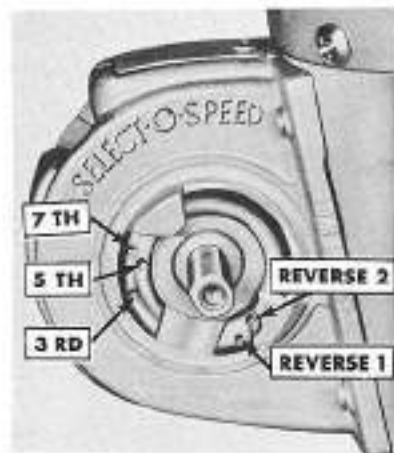

Figure 11
To move the selector lever to the opposite side of the shifter mechanism, take off both covers, Figure 3, by removing the Phillips head screw as shown at (1), Figure 11. Remove the selector lever from the shaft and position it on the shaft on the opposite side of the shifter mechanism. Switch the covers and reinstall with the Phillips head screws. Tighten securely.
Selector Lever Stops: Installation of the selector lever position stops enables the operator to establish a pre-determined shift pattern between two gears. These stops are especially convenient for loader and other material handling operations. The speed stop screws can be positioned in any two of the gears 3, 5, 7, R₁, or R₂, by inserting them in the holes provided as shown in Figure 11. These stops can be over-riden to obtain any gear by pulling outward on the spring loaded selector lever and shifting to the desired gear. When selector stops are not desired, the stop screws should be placed in the holes on the side opposite the selector lever. Tractors will be shipped from the factory with the stop screws in this location.